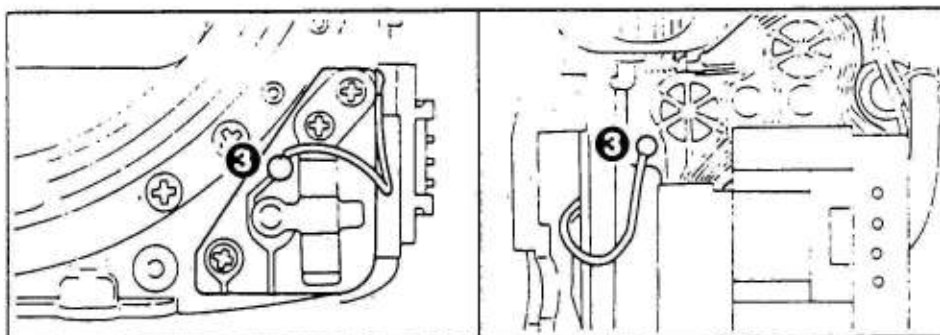

Fig. 1
- ① Is the battery polarity correct?
- ② Is the battery voltage 6V?
- ③ Check soldering of orange cord for battery check button. (See Fig. 1.)